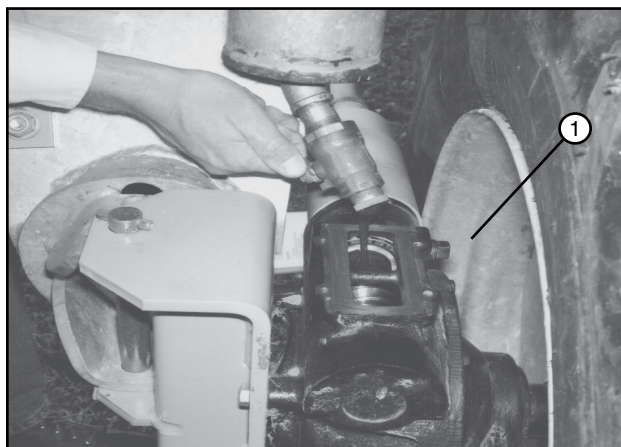

Figure 92-3 1. Check Plug
- Fill gearbox to the top of worm gear shaft or remove the check plug and fill until the oil begins to flow out of the check plug hole. See Figure 92-3.